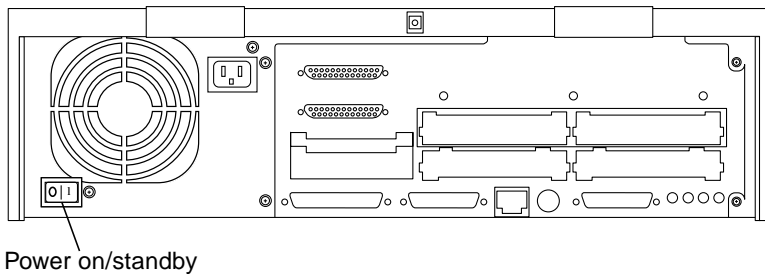

FIGURE 2-1 Rear View of the Ultra 2 System
4. Set the power on/standby switch to the stand-by (O) position (FIGURE 2-1).